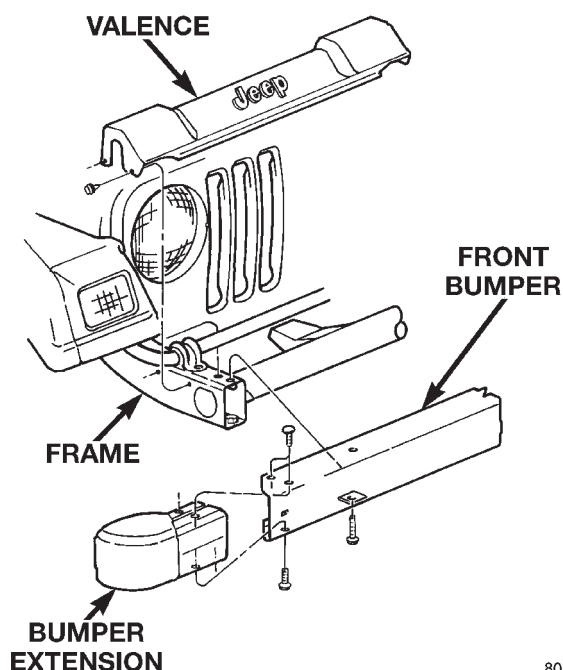

Fig. 3 Front Bumper Components
- (1) If equipped, disconnect the fog lamp harness connector.
- (2) Remove the screws that attach the bumper to the frame rail (Fig. 3).
- (3) If equipped, remove the tow hook.
- (4) Separate the bumper from the vehicle.